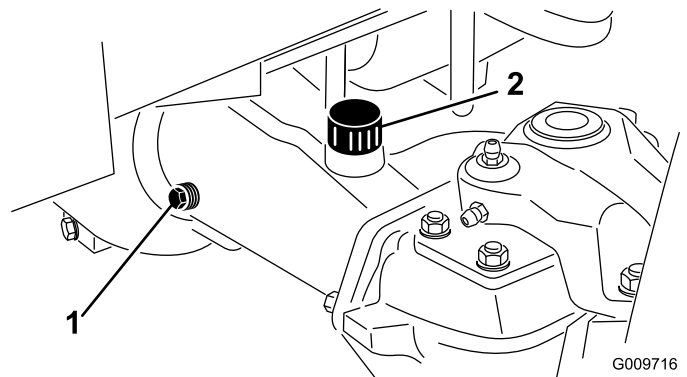

Figure 69
2. Remove a check plug from 1 end of the axle (Figure 69) and make sure that the oil is up to the bottom of the hole. If the level is low, remove the fill plug (Figure 69) and add enough oil to bring the level up to the bottom of the check-plug holes.